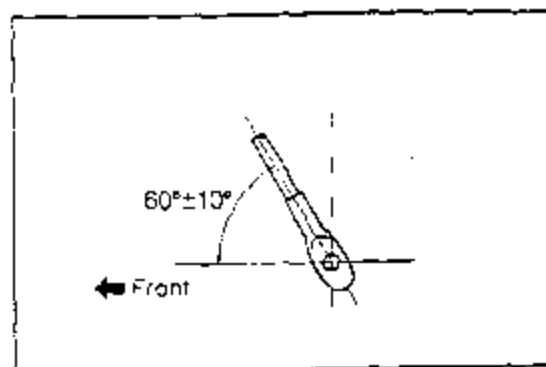

Fig. 1
- d. Disconnect the seat belt switch connector, located on the driver's side (LH) of the assembly, close to the seat belt buckle attaching bolt.
- e. Remove the seat belt buckle by loosening and removing the attaching bolts from both the driver's (LH) and passenger's (RH) sides.
- a. Align the new front seat belt buckle assembly with the attaching hole in the floor panel. Adjust the buckle assembly angle to between 50° and 70° (see Fig. 1), and tighten to the indicated torque.